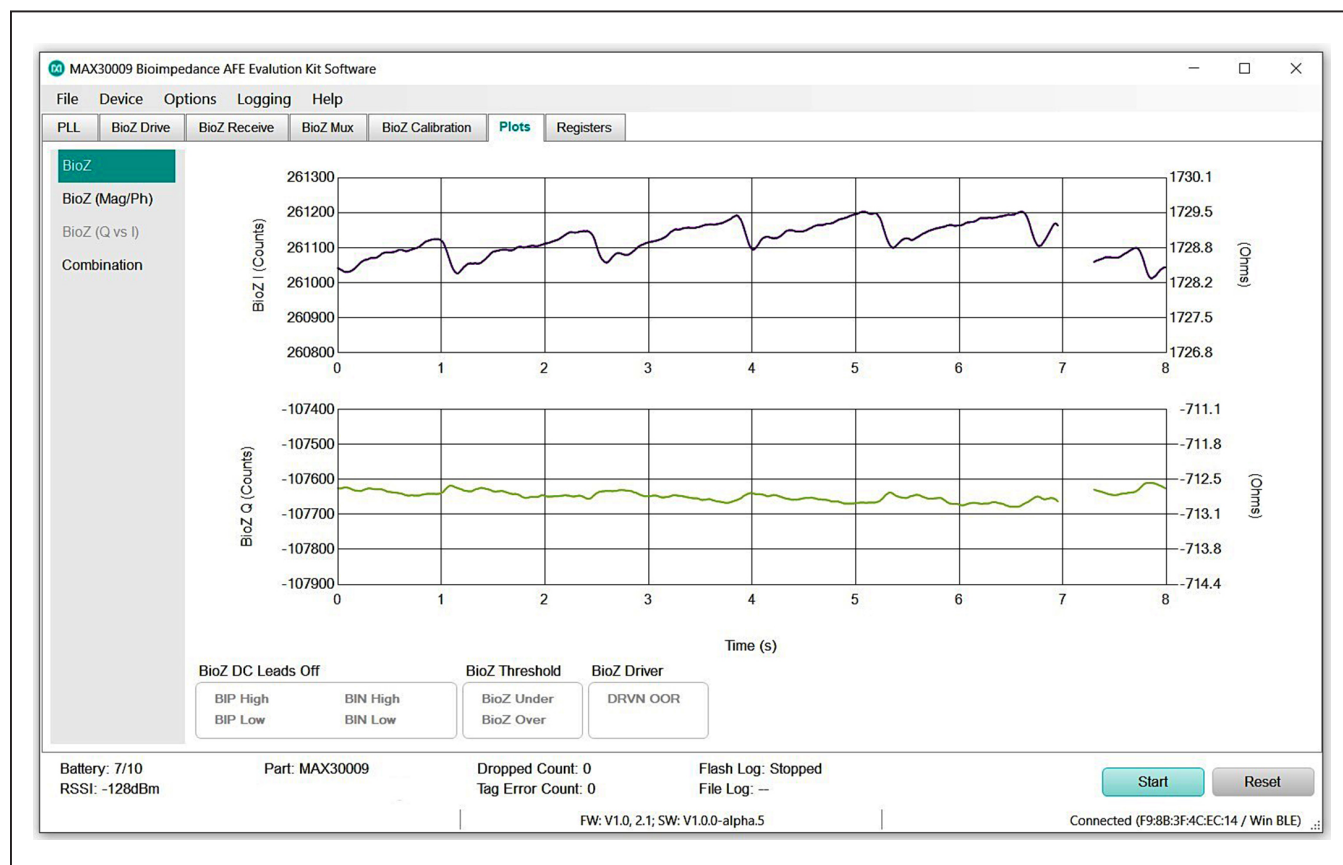

Figure 2. Plot of BioZ I and Q Signals
- 9) Click the **Start** button on the bottom right to start data acquisition. When running, the plots on the GUI should stream with data. Figure 2 shows an example of a plot with both I and Q BioZ enabled.